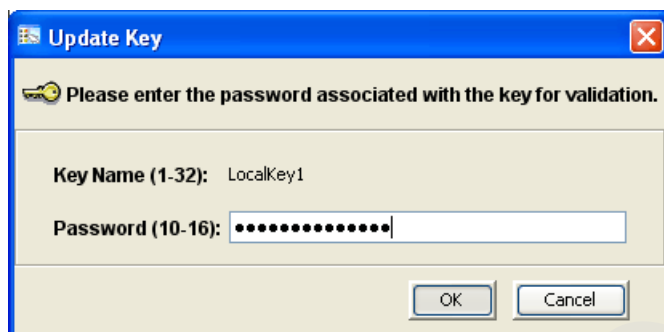

Figure 12-66 Password prompt for editing a key
3. In the window shown in Figure 12-66, enter the current password for accessing the key in the Password text box. We entered the password ComplicatedKey, which was set when this key was created. Refer to 7.3.2, “Secure Tape software encryption” on page 269. The password is case sensitive.